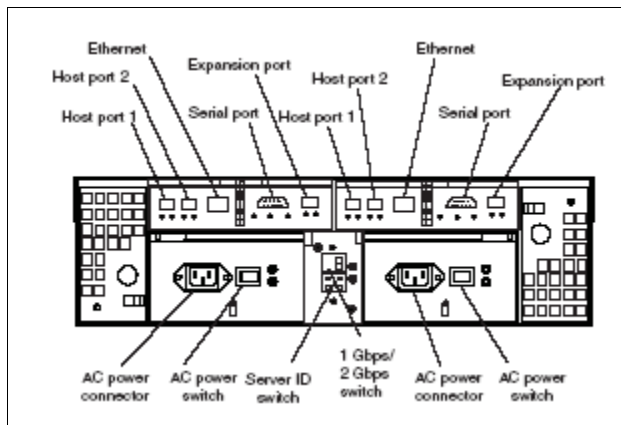

Figure 7-2 DS4100 Back view
- ▶ Each RAID controller fits into the back of the system disk and has the following components: battery, cache memory, two host ports and one expansion port, one Ethernet port, one serial port. Each RAID controller has a unique hardware Ethernet address, which is printed on a label on the front. There is also a label giving the cache battery manufacturing and installation dates on the top of the controller unit. Figure 7-2 shows the parts of the back of the DS4100.